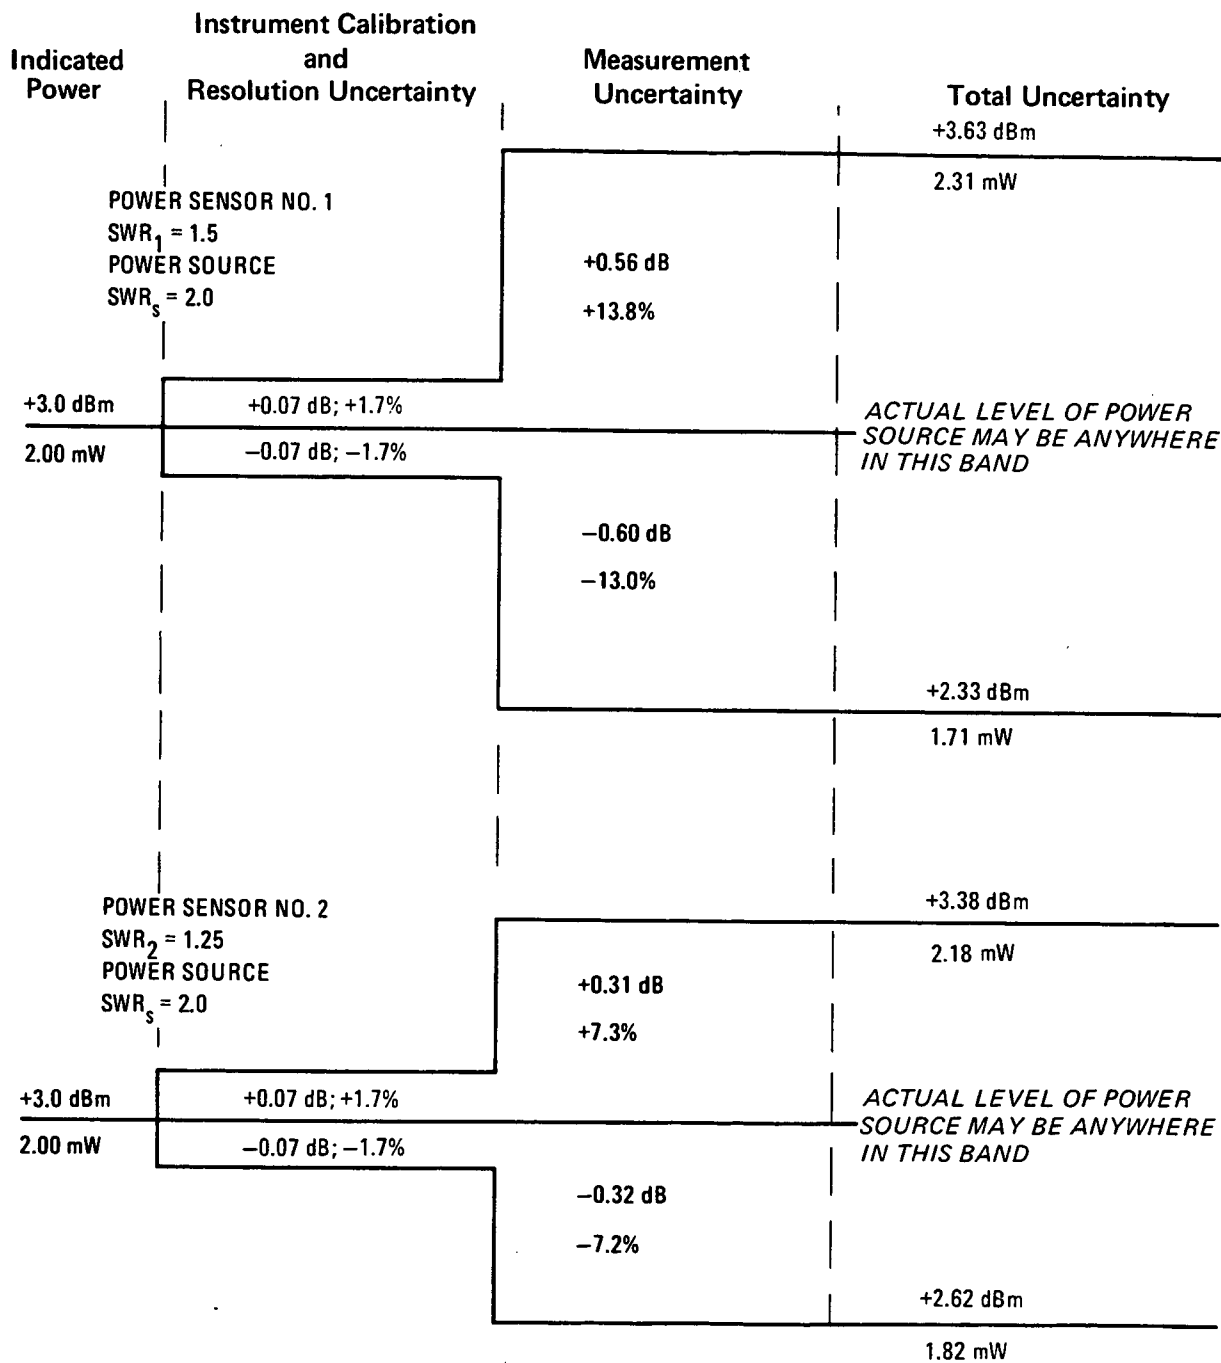

Figure 3-10. The Effect of Power Sensor Mismatch on Measurement Accuracy
**3-78 Calculating Mismatch Uncertainty.** Mismatch uncertainty is the result of the source mismatch interacting with the Power Sensor mismatch. The magnitude of uncertainty is related to the magnitudes of the source and Power Sensor reflection coefficients, which can be calculated from SWR. Figure 3-9 shows how the calculations are to be made and Figure 3-10 illustrates mismatch uncertainty and total calculated uncertainty for two cases. In the first case, the Power Sensor's SWR =